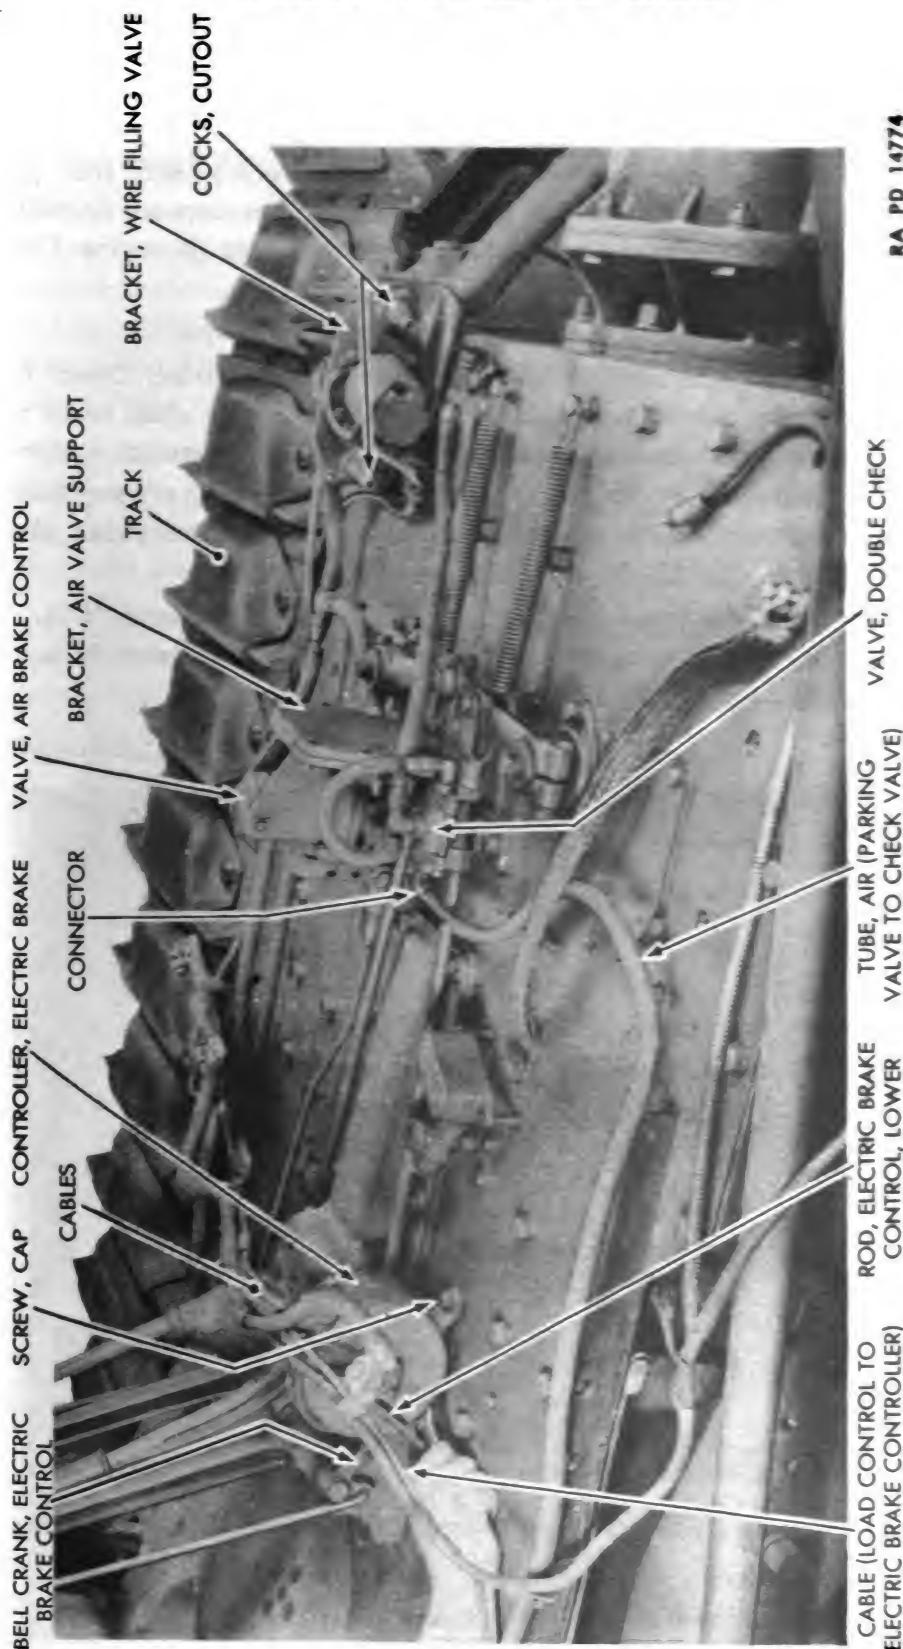

Figure 86 – Electric Brake Controller Disconnection
(a) Disconnect wire filling valve bracket from main frame cover (fig. 86). Remove 2 cap screws and lock washers which hold bracket to main frame, using a $\frac{3}{4}$ -inch open-end wrench. Then remove 2 connectors which hold air tubes to cutout cocks, using a $\frac{5}{8}$ -inch open-end wrench.
(b) Using diagonal cutters, remove cotter pin which holds lower electric brake control rod to electric brake control bell crank and remove rod from bell crank. Then, using a $\frac{9}{16}$ -inch open-end wrench remove 2 cap screws and lock washers which hold electric brake controller to main frame cover (fig. 86).
(c) Using a $\frac{7}{16}$ -inch open-end wrench, remove nut which holds cable (load control to electric brake controller) to electric brake load control (fig. 87). Remove cable from load control and pull cable through dash and cowl assembly (fig. 86).
- (3) REMOVE AIR TUBE (PARKING VALVE TO CHECK VALVE (fig. 86)).